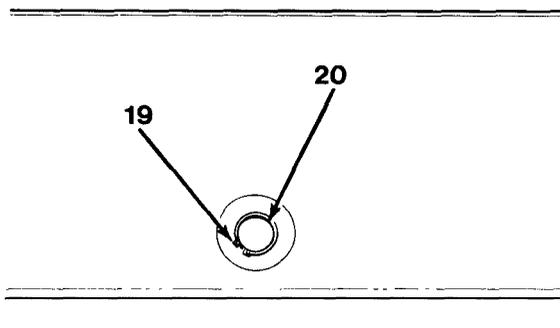

Figure 15-9
5. Remove snap ring (19) and pin (20, Figure 15-9).